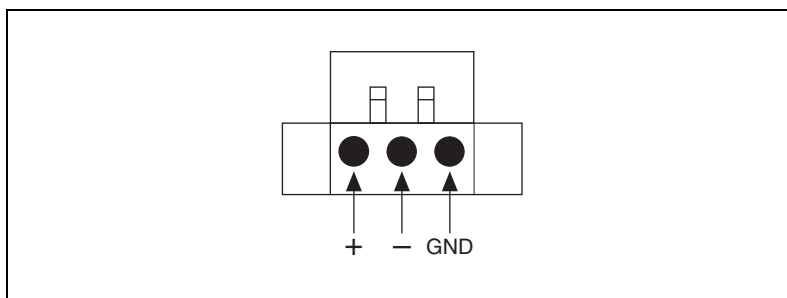

Figure 2-1. Power Connector
3. Connect the power connector to an 18–32 VDC power line. Be sure to connect the positive, negative, and ground lines as shown in Figure 2-1. The power lines can be from either a power adapter or in-house power source.